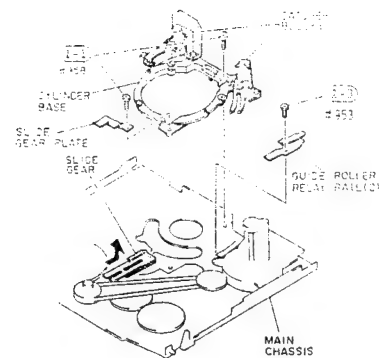

Fig. 2-71
- 1) Remove two (2) screws holding the cylinder base. (See Fig. 2-71)
(2) Guide Roller Relay Rail (2)
- 3) Remove one (1) screw holding the guide roller relay rail (2). (See Fig. 2-71)
- 4) Remove guide roller relay rail (2) from the main chassis.
- 3) Remove the slide gear in the direction of the arrow from the main chassis. (See Fig. 2-71)